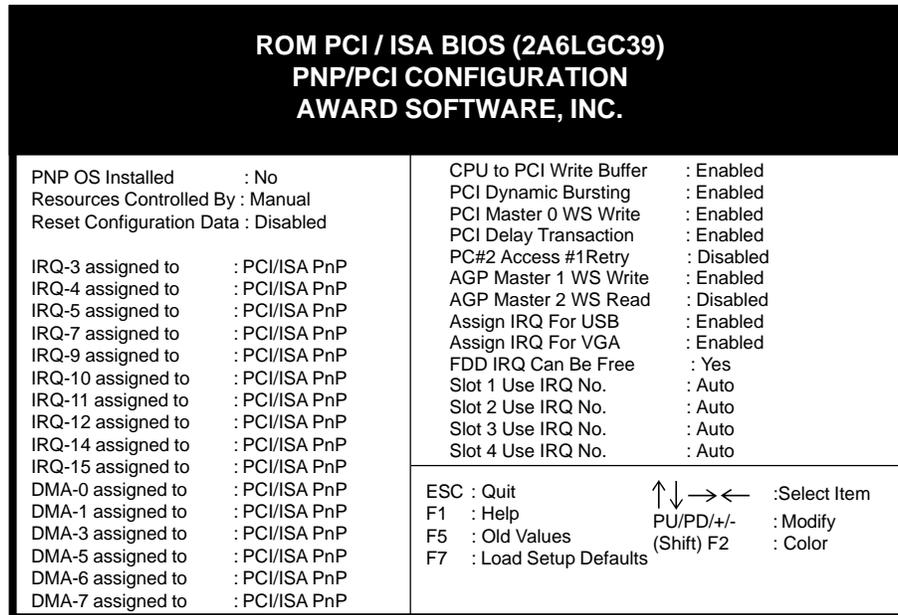

Figure 3-6 PCI & ONBOARD I/O Setup Screen
Note that enabling the Power Management function will result in enabling the HDD Power Down function (Max Saving = 15 min, Min Saving = 1 min). The HDD Power Down function is not part of the Power Management scheme as indicated in Figure 3-6. Refer to the Standby Mode, Suspend Mode, and HDD Power Down descriptions below for more information on hard drive power management.
- ✎ The following listed IRQ'S, (see figures 3-6) which can be exempted much as the COM ports and LPT ports can. When an I/O device wants to gain the attention of the operating system, it send signals causing an IRQ to occur. When the operating system is ready to respond to the request, it interrupts itself and performs the service.